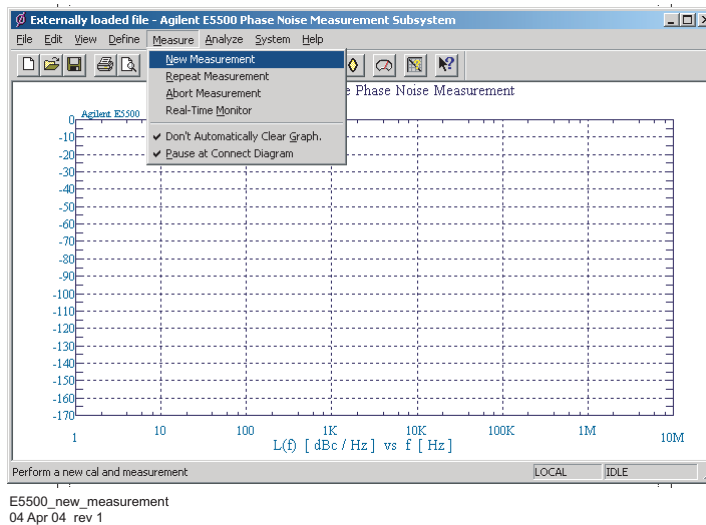

Figure 8 Navigating to the New Measurement window
- 1 From the **Measure** menu, choose **New Measurement**. See Figure 8.